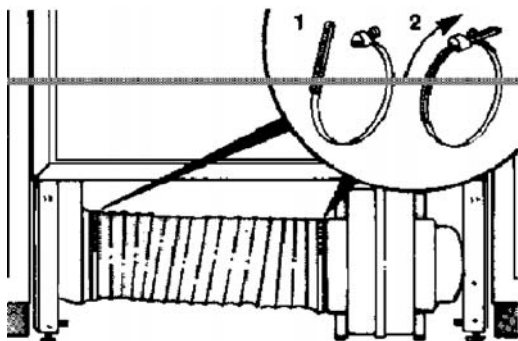

Figure 19
- S Use one of the duct clamps provided. Using a screw driver, tighten duct clamp to secure the flex duct to the inlet of the blower. (See figure 19).